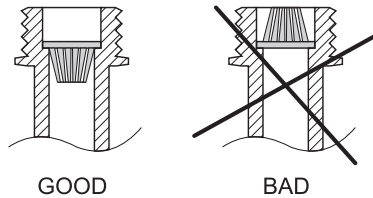

Fig.10
5. Install filter into heater intake with basket bottom down (Fig. 10)